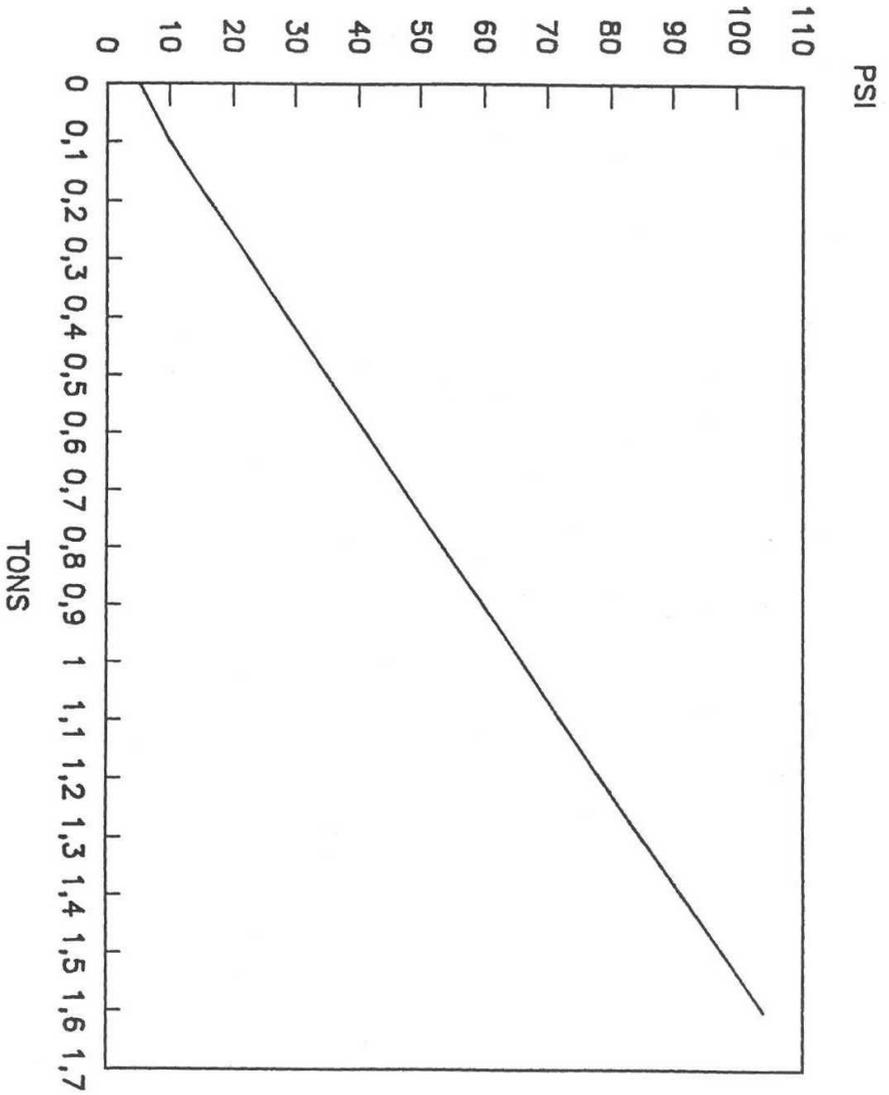

Figure 4. PSI /Tons Load Conversion Chart For Atlas™ Press Air 1.6T
The Atlas™ Press Air 1.6T enables the controlled application and release of an applied load and can accommodate samples up to 57mm in diameter and between 44 and 133mm tall. The press works by forcing compressed air from a pump cylinder to a ram piston situated at the top of the press to compress a sample held in the pressing area. As the air pressure builds up in the press the load being applied to the sample is measured in units of force (pounds per square inch)) from a standard analogue and optional, additional digital pressure gauge. To measure the actual load in tonnage the conversion chart (**Figure 4**, page 14 of this instruction manual) is used. The application of a load will continue until the required load is reached and then held until released by the operator.
Both the analogue pressure gauge (7) and the optional, additional digital pressure gauge (13), (if fitted) will read the same air pressure being applied to the cylinder (12) of the Atlas™ Press Air 1.6T. To convert the pressure reading into a tonnage load use the psi to tons conversion chart shown at **Figure 4**. (See page 14.)